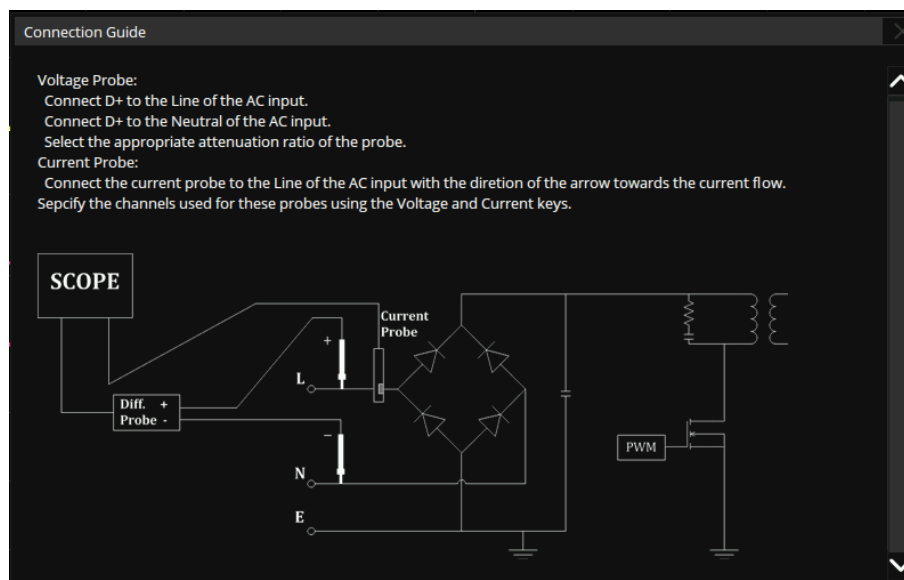

Figure 19.5 Connection Guide
5. Touch **Connection Guide** to display a diagram illustrating the procedure setup. See figure 19.5